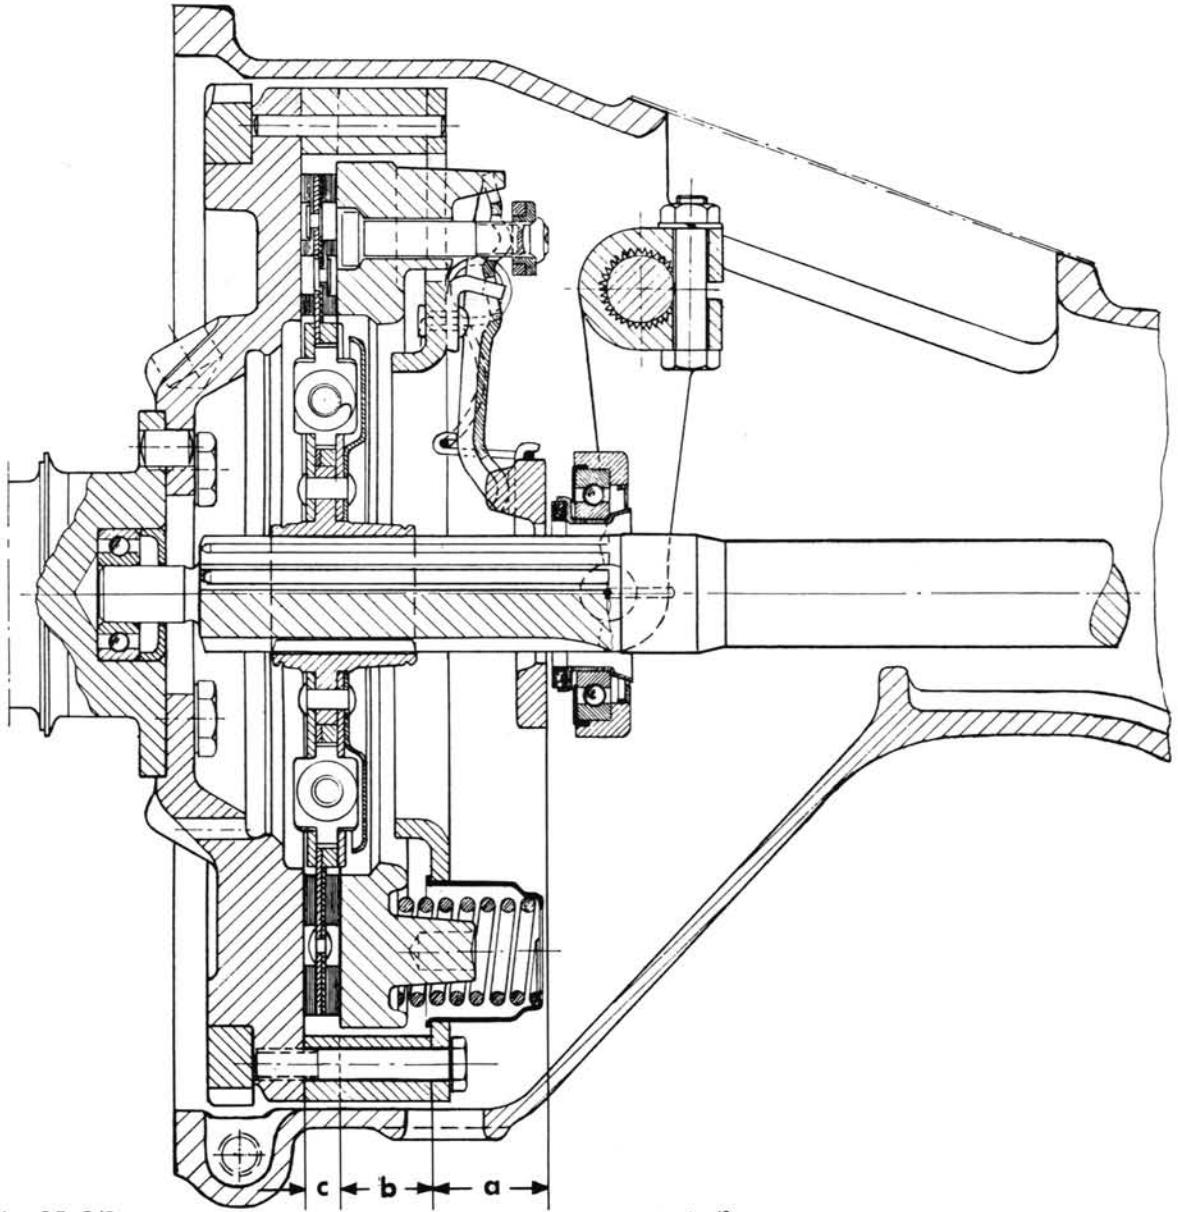

Fig. 25-3/1
3. Adjust lever to adjusting dimension "a" by means of adjusting nut, refer to Fig. 25-3/1.